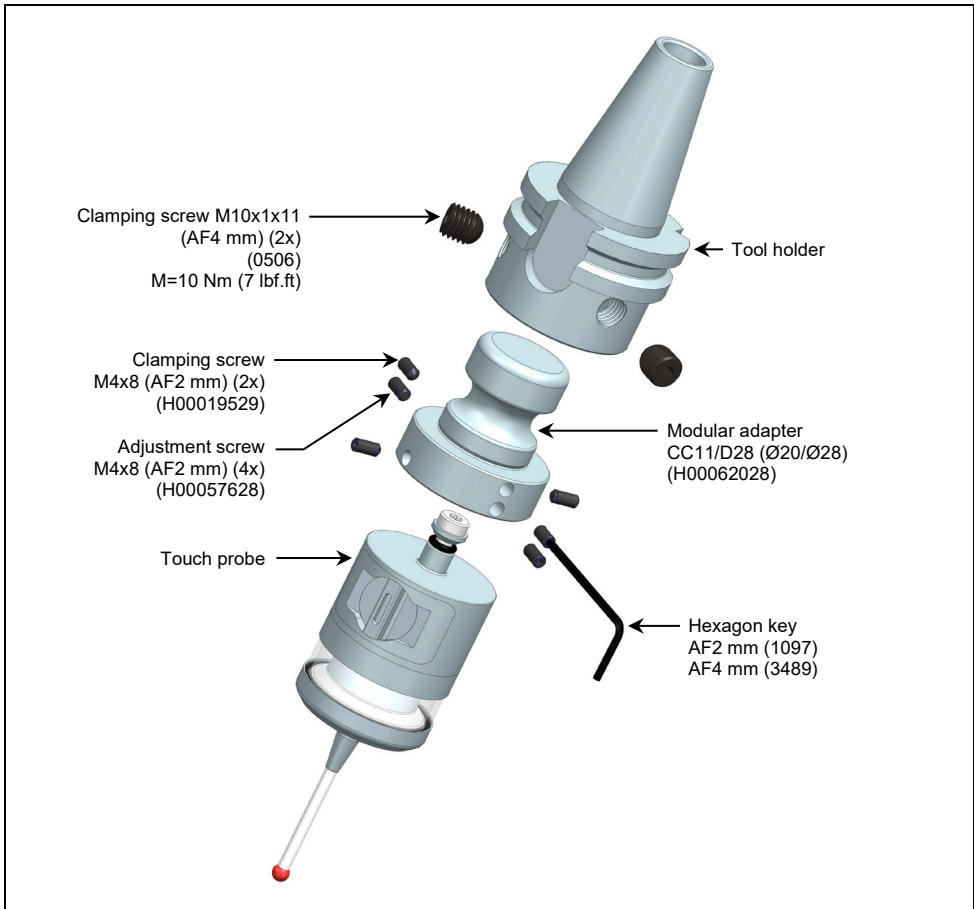

Fig. 7 Mounting/dismounting the tool holder
- 1.3 Loosen all clamping screws and adjustment screws according to Fig. 7 in the modular adapter.
- 2.5 Insert the clamping screws and tighten to the torque specified in Fig. 7.